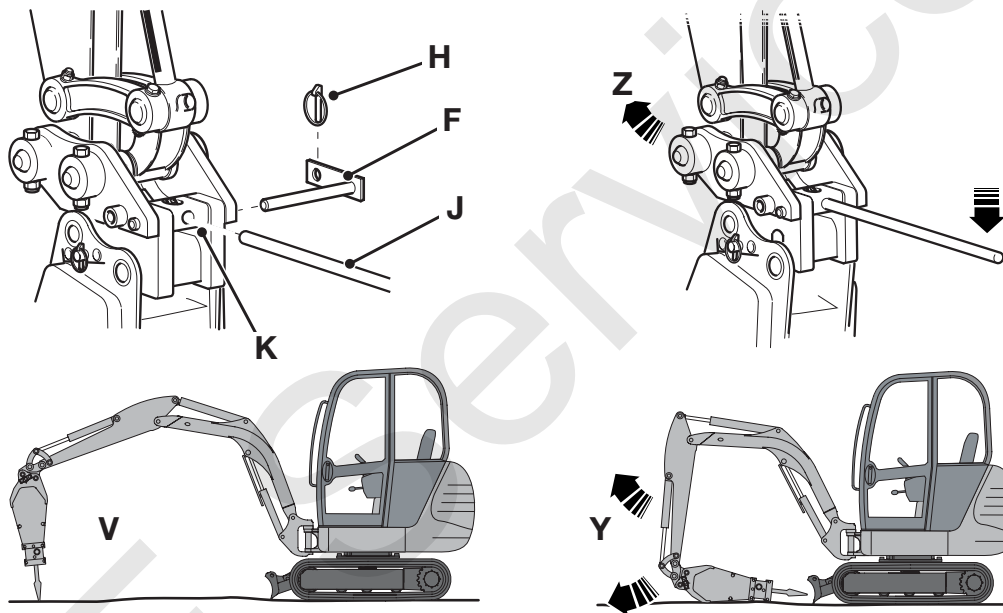

Fig 112.
- 2 Position the breaker just clear of the ground and at an angle such that the breaker does not detach from the front pivot pin when the Quickhitch is unlatched. Typically shown at V. ⇒ Fig 112. \(□ 280\).